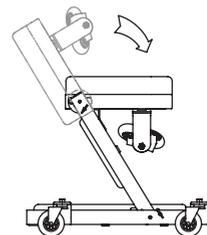

Figure 2 – High-seat configuration
2. Disengage Lock Pin for Middle Frame and rotate further forward. Engage locking pin. Disengage Lock Pin for Head Frame section and rotate backwards as shown in Fig. 2. Adjust hinged castor brackets as required. This is the high seat configuration.